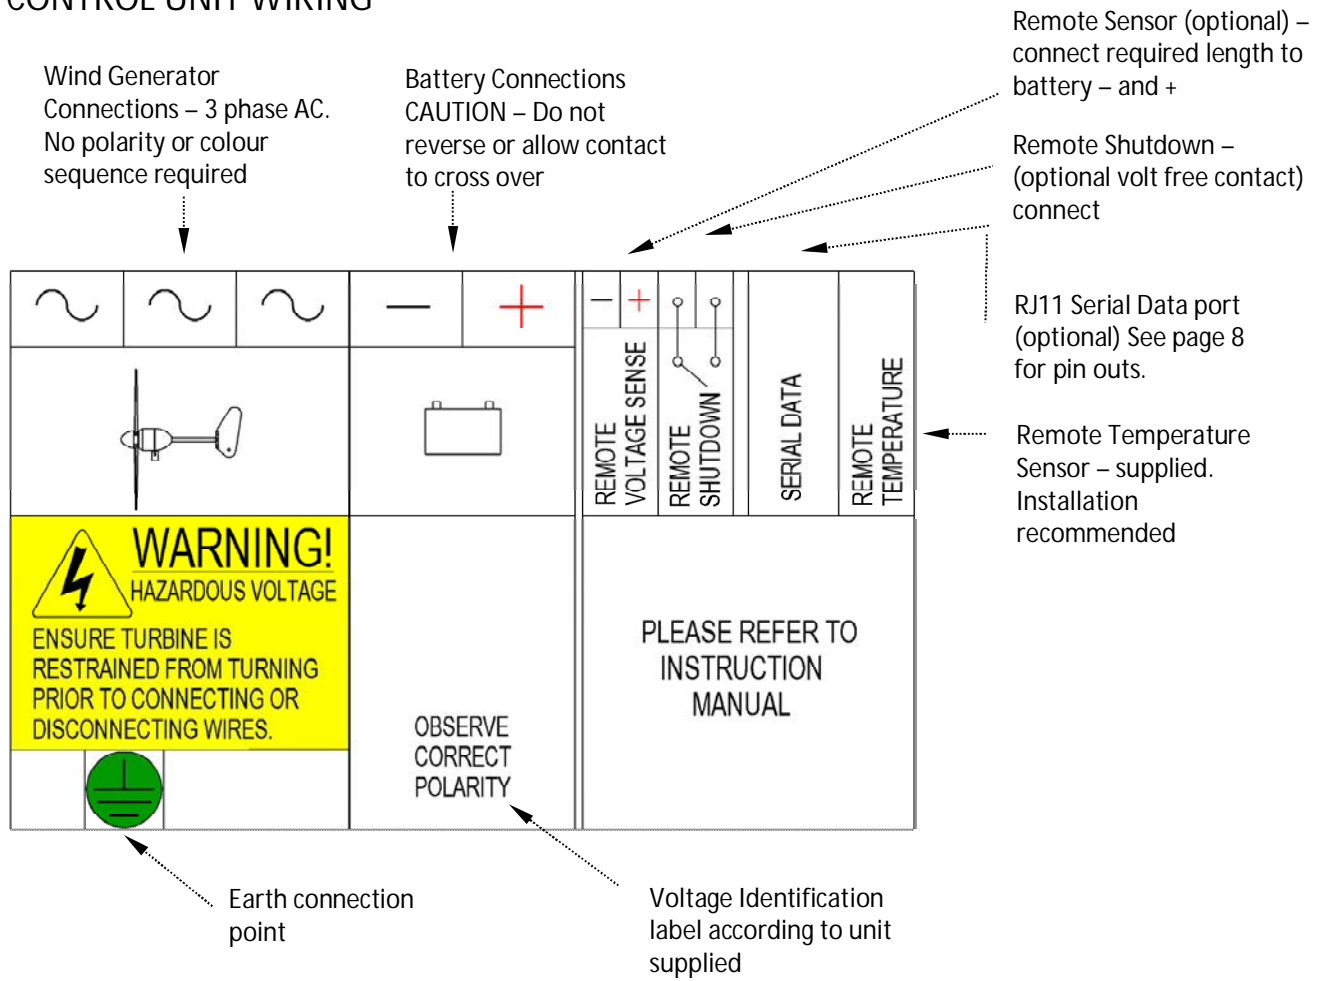

Fig 10. 12v, 24v & 48v Control Unit Connections Label
5. Make the connections following Figs. 10 and 11. Note that some connections are optional. It is vital to observe correct polarity when connecting the battery cables otherwise serious damage will result.